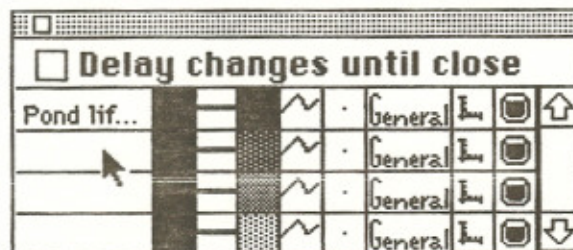

Figure 11. Screen indicating where to click to add a label to the data table.
1. Click on the  tool in the plot window. The window in Figure 11 will appear.